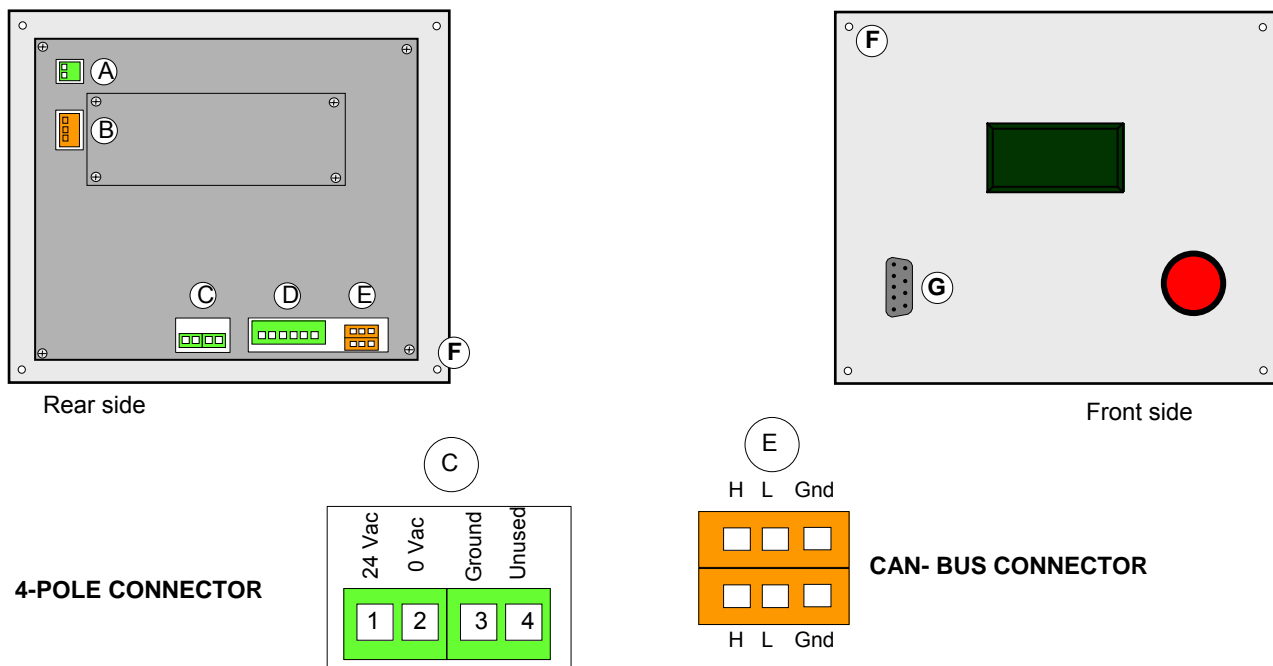

Figure 13 DDC rear view and details of electric connections
(see instructions on Page 32 and detail C in Figure 13/Page 31).
- How to connect Direct Digital Controller (DDC) with RB100, on CAN network (see instructions on Page 33 and detail E in Figure 13/Page 31).
Figure 13 shows DDC front and rear views with relevant electric connections; details "C" and "E" have been suitably pointed out in figure, as useful for connections in two procedures above.
LEGEND OF Figure 13
Table 6 Legend of Figure 13: DDC details